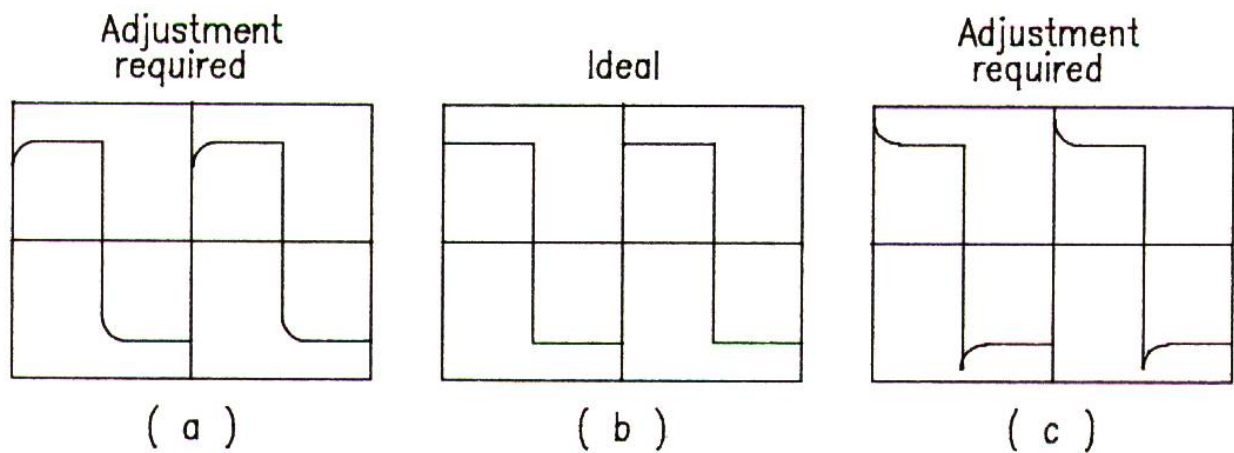

Fig. 9
- Adjust VC1 to make the displayed waveform become as Fig 9(b).
- Adjust VC2 to make the displayed waveform become as Fig. 9(b).